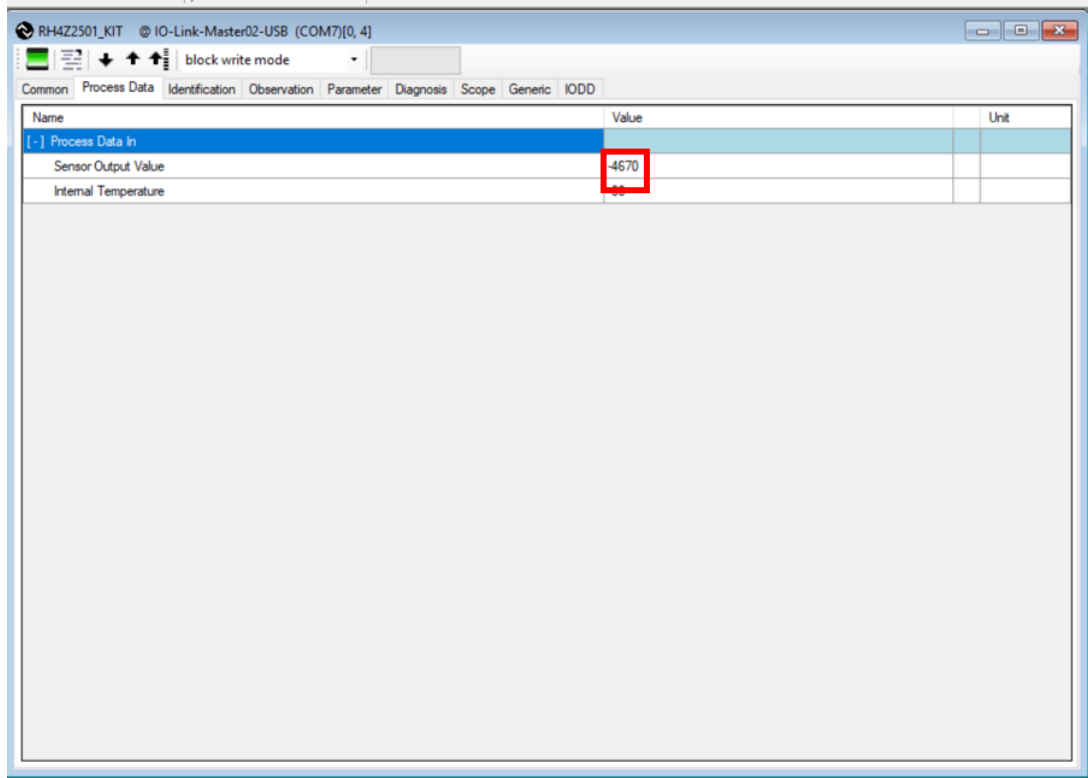

Figure 8. Reading Data Values
- b. Select the necessary values, see Figure 8.